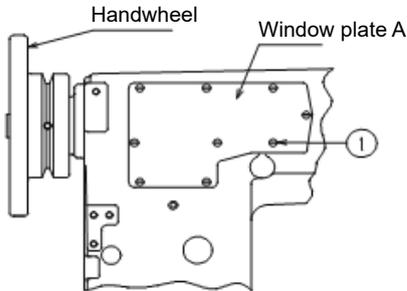

Fig. 13
Loosen the window plate A setscrews ① (eight places) and the window plate B setscrew ② (one place) on the counter-operator side of the arm to remove the window plates A and B. (Figs. 13 and 14)
Secure the window plate A to the counter-operator side of the arm with the setscrews ① (eight places) and the window plate B with the setscrew ② (one place). (Figs. 13 and 14)